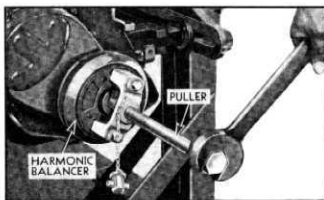

Fig. 40—Harmonic Balancer Puller and Driver
12. Attach harmonic balancer puller J-1287 to balancer and turn puller screw to remove balancer and pulley assembly (fig. 40).